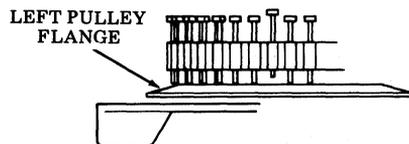

Fig. 40—Type Carrier Alignment
- (h) Align all pallets against left pulley flange (Fig. 40).
Warning: Damage to the type carrier or printer will result if any protruding type pallet is left unchecked (Fig. 40).
- (d) Rotate type carrier one revolution by turning impeller gear by hand clockwise. At the same time align any protruding type pallets against the left pulley flange (Fig. 40).